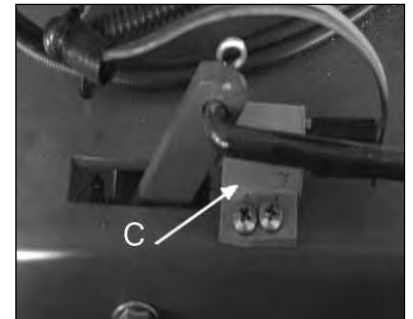

Figure 18
**Safety System Adjustment** (Refer to figure 18 & 19)
4. Check that safety switch "C" is firmly against blade bell crank, if not, repeat steps 2 and 3 until safety switch "C" is firmly against blade bell crank (see figure 18).